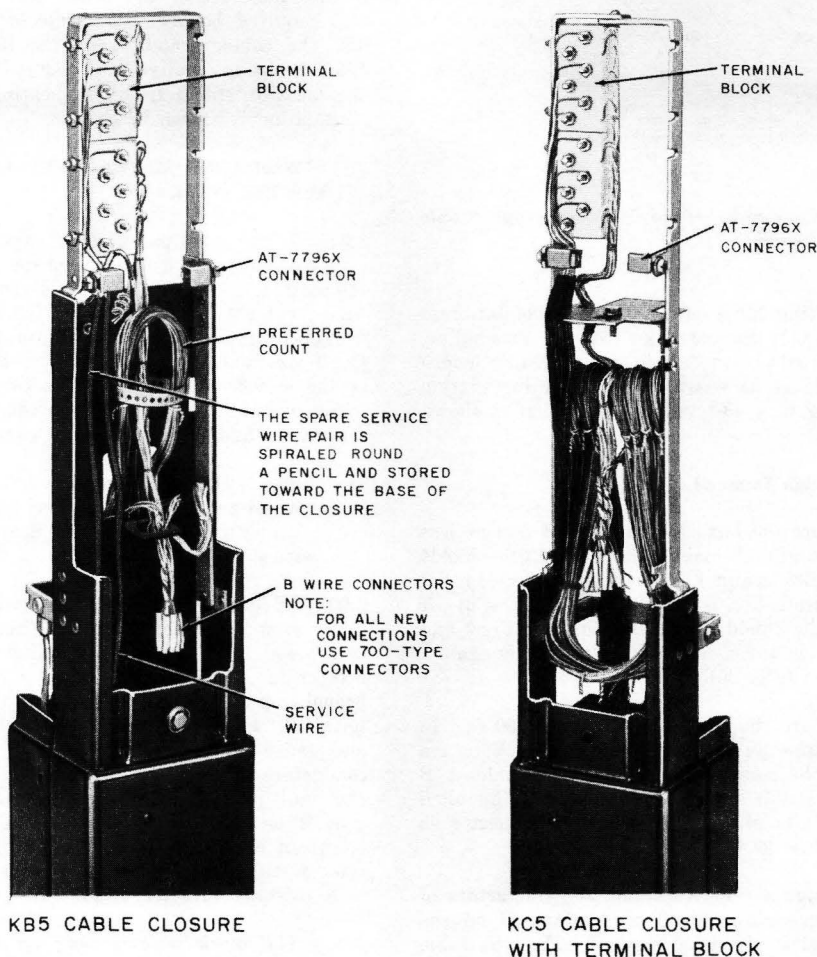

Fig. 18—♦Service Wire Installed—K Type Cable Closure (Protected)♦
5.11 Terminate service wire in K cable closure as shown in Fig. 18.